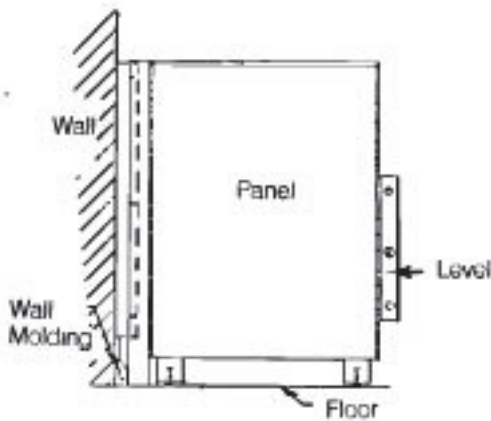

Fig 4
8. Place panel which has WB bracket attached, over inside section (already attached to wall) until contacting wall base molding. See Fig. 4.